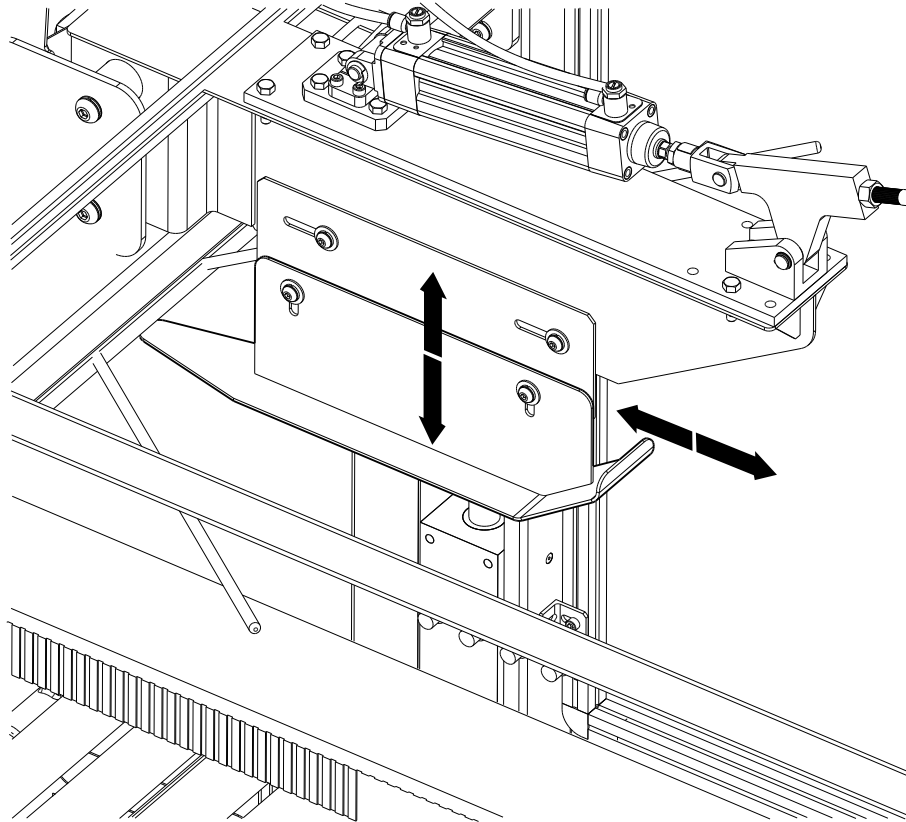

Figure 18 Ski adjustment
4.8 Ski Adjustment (figure 18)